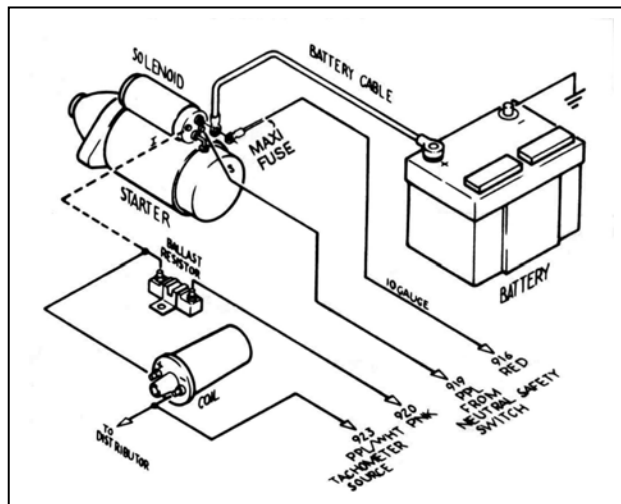

Figure 7-4 GM Ignition (Start-Run) System
7.4 GM Ignition (Start/Run) System. See Figure 7-4.
- 7.4.6 A 14-gauge wire connected from the Starter Solenoid Ignition (I) terminal to the ignition coil side of the Ballast Resistor is optional. This wire (the dashed line in **Figure 7-4**) serves as a ballast resistor BYPASS during engine starting. However, if the starter solenoid shorts out, which is not unusual, the engine will stop running and will not restart as long as this wire is connected. You may therefore choose to omit it. If you are not using a Ballast Resistor, leave the Starter Solenoid Ignition (I) terminal unconnected and do not install the bypass wire.